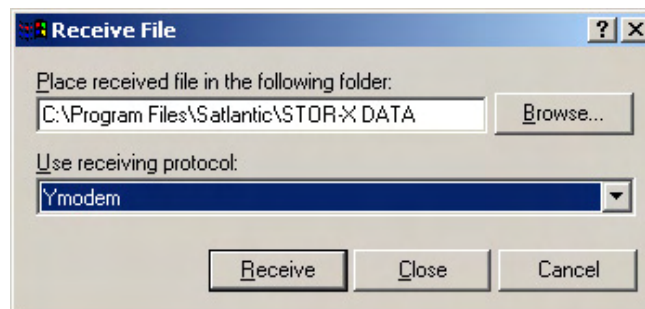

Figure 38 - HyperTerminal – Receive File Dialog
- The **Receive File** dialog box opens. Browse to the folder to store the data, ensure the **YMODEM** protocol is selected, click the **Receive** button. The receive file window is shown in Figure 38.